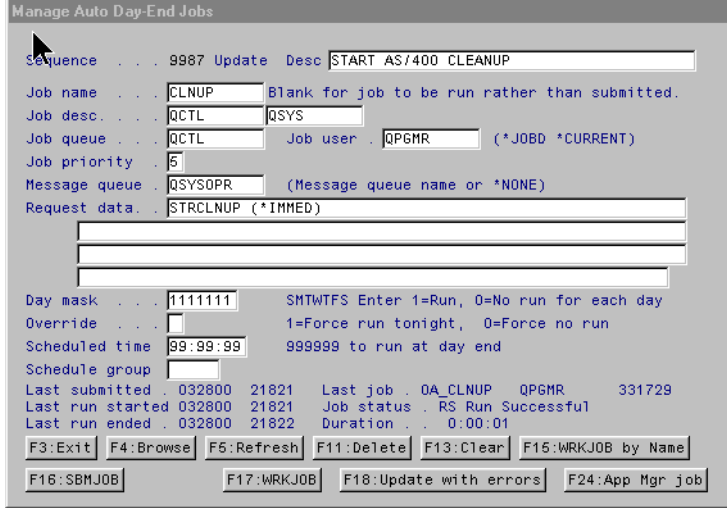

Figure 96. Setup for scheduling the AS/400 Cleanup Task in Machine Manager
6. Add a task to Machine Manager as shown in Figure 96.